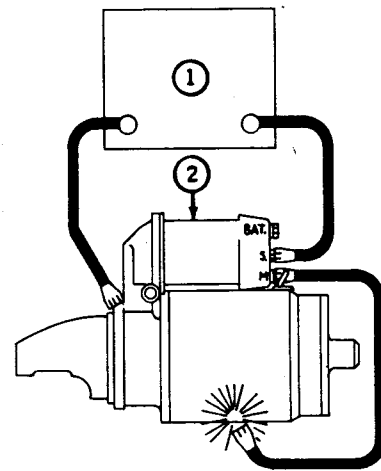

Fig. 14-Circuit For Checking Pinion Clearance
2. Connect a battery (1, Fig. 14), of the same voltage as the solenoid (2) (12 volt), from the solenoid switch terminal(s) to the solenoid frame.